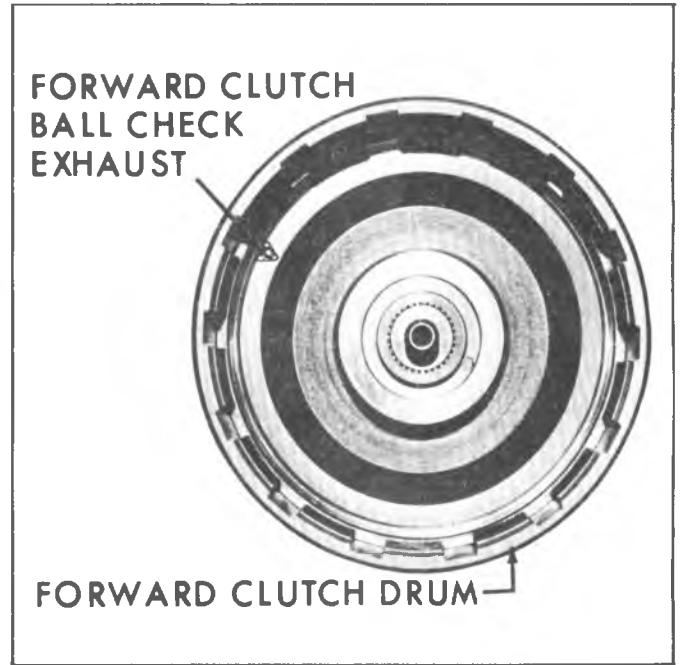

Fig. 76N--Forward Clutch Exhaust Check Ball
2. Inspect twenty one (21) springs for collapsed coils or signs of distortion.
4. Inspect clutch housing for wear, scoring, open oil passages and free operation of exhaust check ball (fig. 76N).